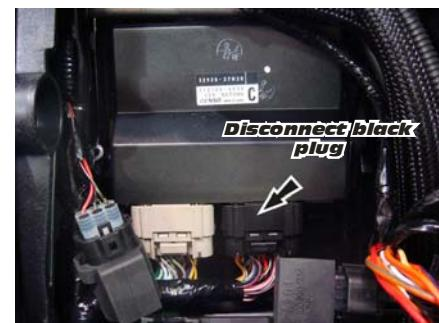

Fig. 2
3. **With ignition in the OFF position, disconnect the black wire harness plug from the ECU. See Fig. 2**